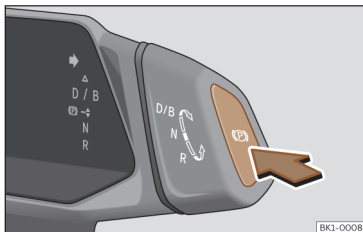

Fig. 125 On the gear selector: electronic parking brake button.
- While the vehicle is stationary, press the button >>> **Fig. 125**.
- Press the button >>> **Fig. 125**. The electronic parking brake is activated.